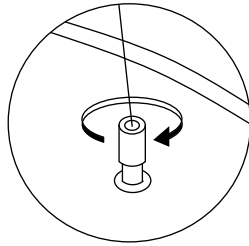

Fig 11
9. Screw the holder back into the Medea (Fig 11).